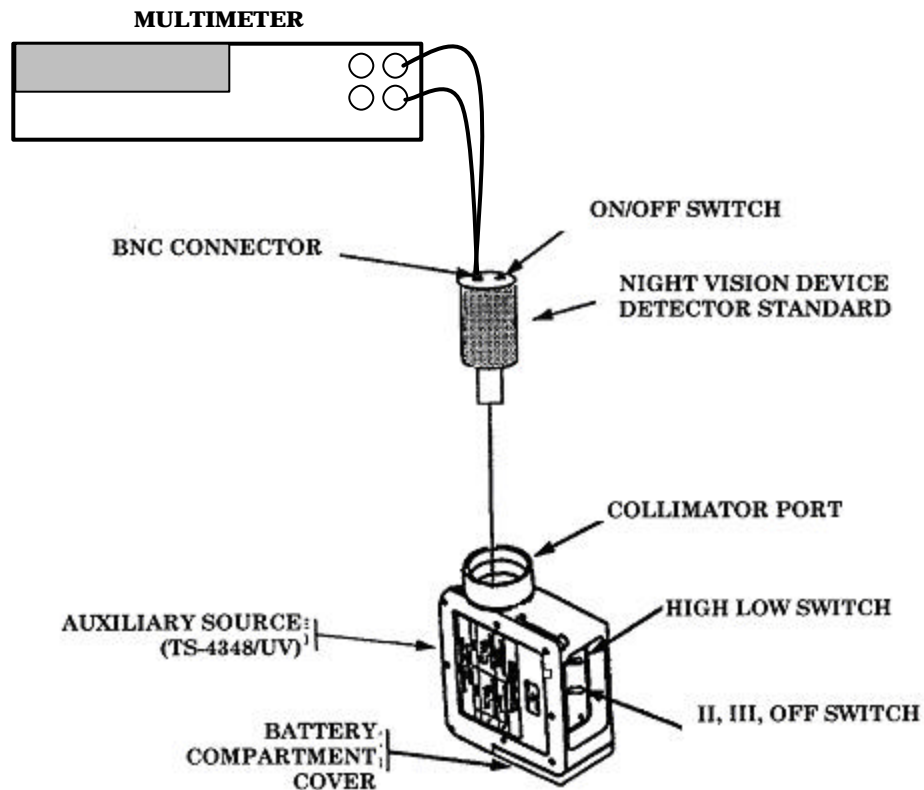

Figure 2. TS-4348/UV controls.
(1) Connect multimeter **HI** and **LO** input terminals to night vision device detector standard **OUTPUT** terminals using BNC CONNECTOR (fig. 2.)
- (2) Install night vision device detector standard into TI COLLIMATOR PORT (fig. 2).
- (3) Turn night vision device detector standard power ON/OFF SWITCH (fig. 2) to ON and allow night vision detector standard to warm up 15 minutes.
- (4) Set TI **II, III, OFF** switch to **II**. Power indicator will illuminate.